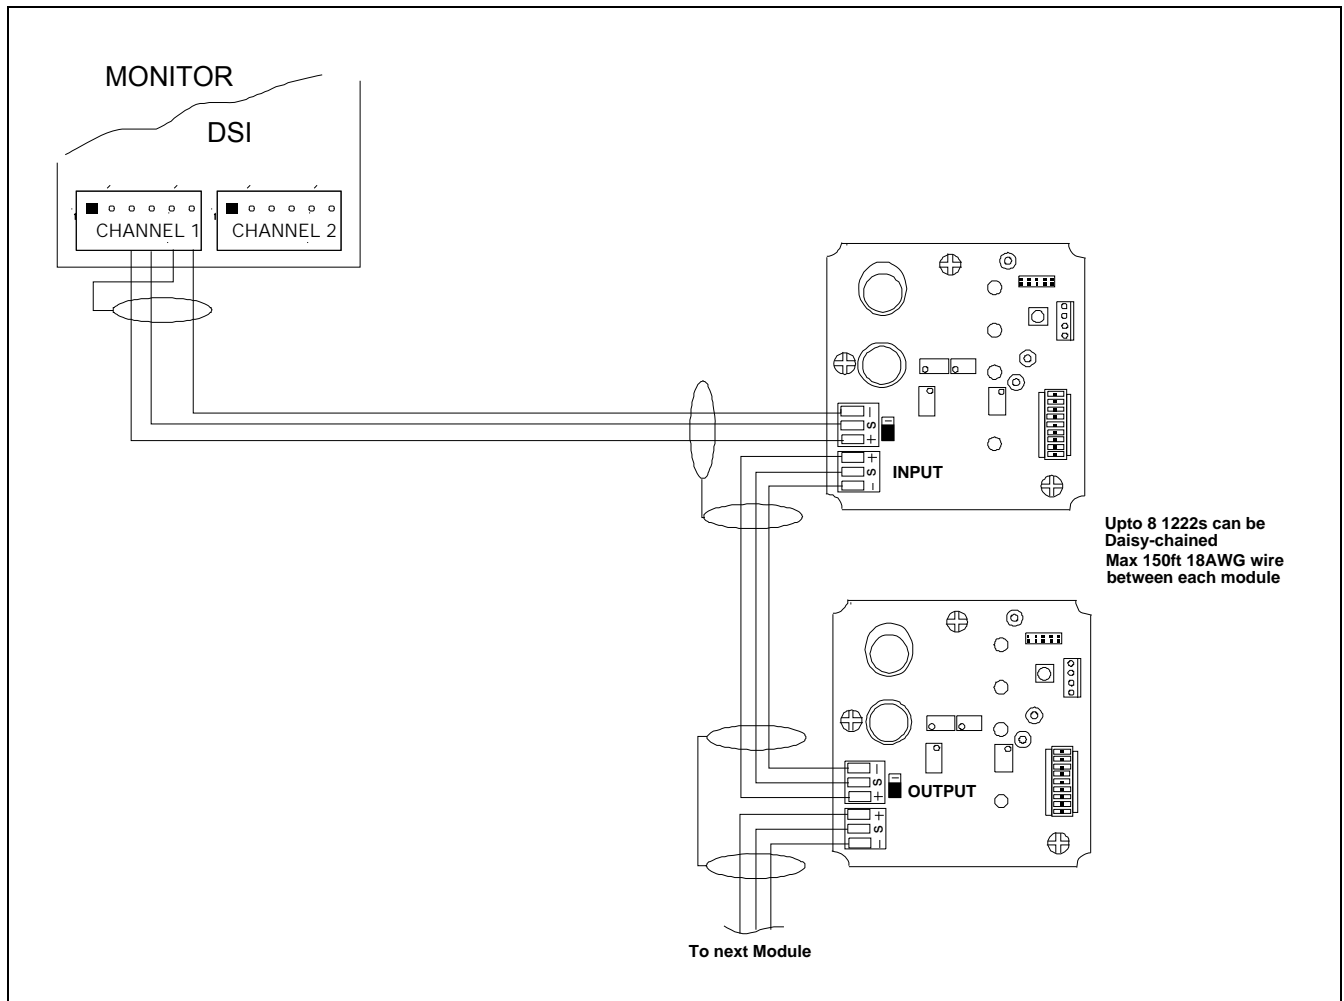

Figure 8-1: AMC-1222 Sensor Wiring
- Cable shielding must be grounded at the monitor end only. For Sensor modules ensure grounding continuity by tying grounding shields together see Figure 8-1. The cable shield at the end of a cable where the grounding is not propagated or tied to a landing point must be clipped short and wrapped with electrical tape to avoid electrical contact with any components in the housing.
- If you have connected 122X Sensor Modules to the monitor and are experiencing a fault you will need to check the inputs and output wiring and either the end of line termination jumpers or dipswitch settings. See Figures 8-1 to 8-4.